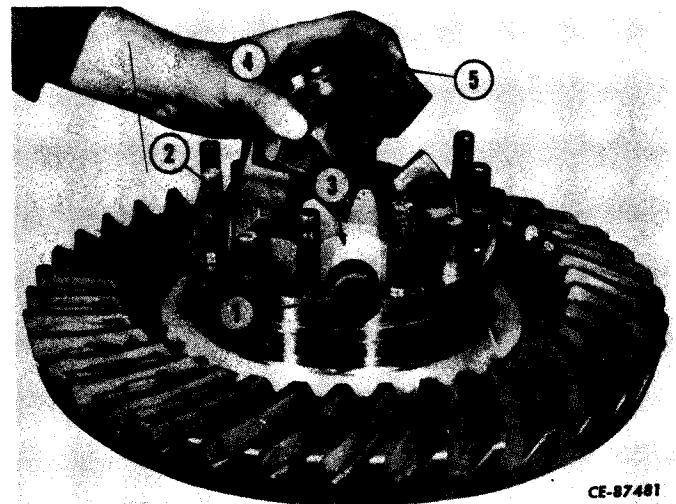

Figure 6-12
Remove side gears (4, Figs. 6-12 and 6-13), spider (1), thrust washers (3, 5) and pinion gears (2).